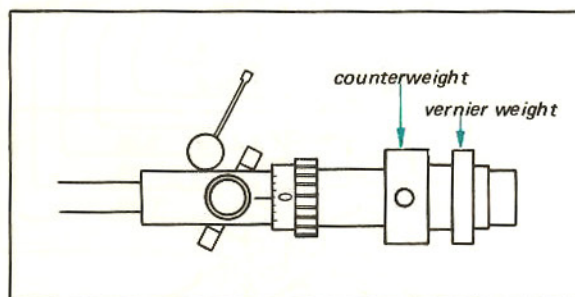

Fig. 3-3. Tonearm balance adjustment
4. Horizontally balance the tonearm by sliding the counter weight at the rear of the tonearm. Notice that the vernier weight is provided for precise adjustment. See Fig. 3-3.